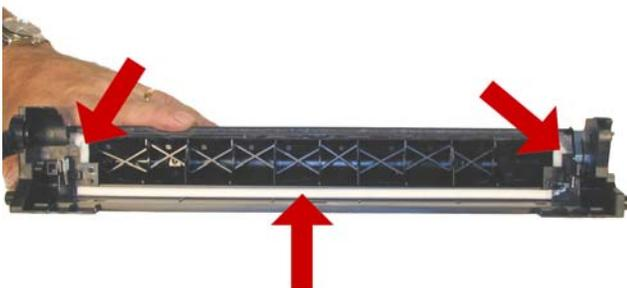

Figure 29
10) Clean out any remaining waste toner. Make sure the foam seals under the wiper blade are clean and not damaged. See **Figure 29**